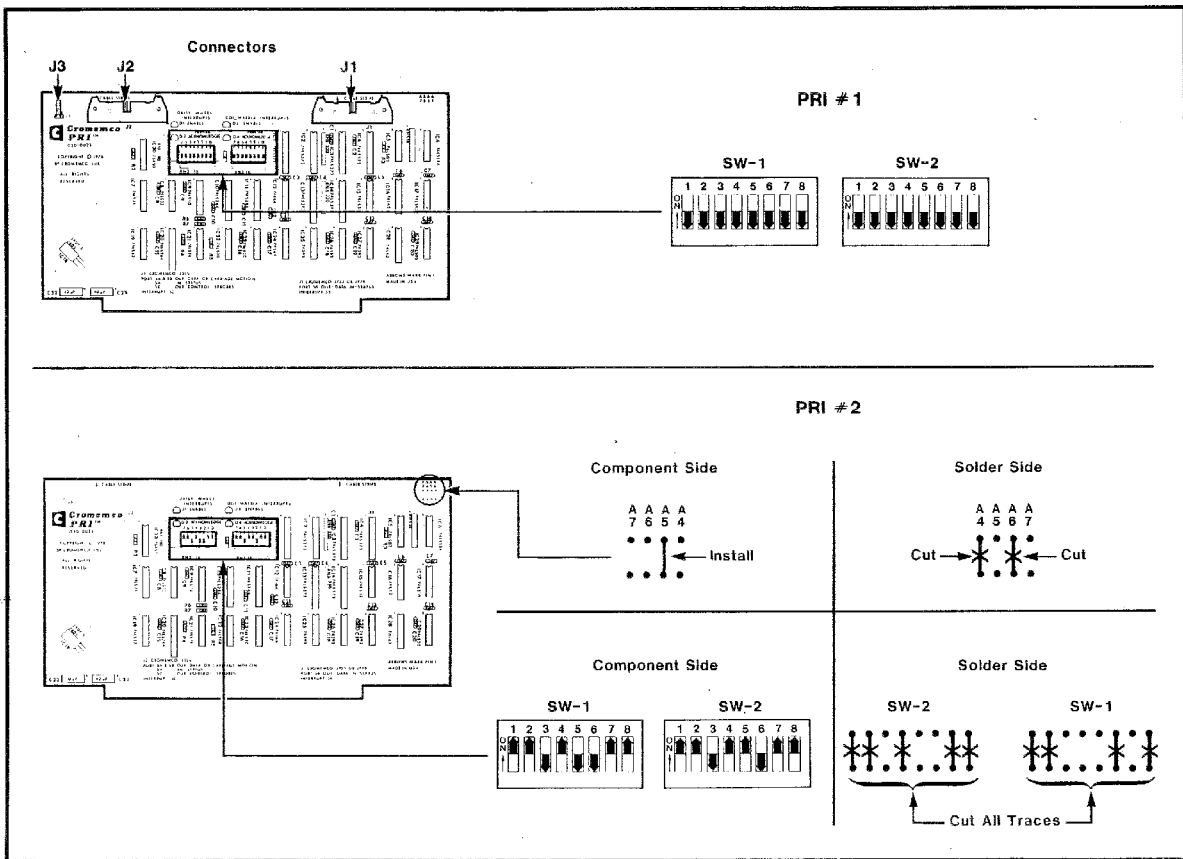

Figure 6-7: PRI SWITCHES AND JUMPERS
2. The PRI is shipped from the factory with jumpers that select S-100 base I/O address 50h for the board; this corresponds to PRI 1 in Appendix A. To select base port address 20h for PRI 2, cut the two existing foil traces on the board solder side, and install two new jumpers as shown in Figure 6-7.
3. The PRI is shipped from the factory with jumpers which select two interrupt acknowledge vectors: 5Ch for the typewriter printer and 34h for the dot matrix printer. These are the correct vectors for PRI 1 in Appendix A. Two 8-pole DIP switches, SW-1 and SW-2, are soldered in parallel with the jumper traces. When all 16 switches are turned OFF (open circuited), then all 16 switches are electrically removed, and the jumpers select the correct interrupt vectors. If you selected base port address 20h for PRI 2 in step 2 above, then you must also select interrupt vectors 2Ch for the typewriter printer, and 24h for the dot matrix printer. In this case, cut the foil traces on the PRI solder side and set vector 2Ch with SW-1, and 24h with SW-2, as shown in Figure 6-7.